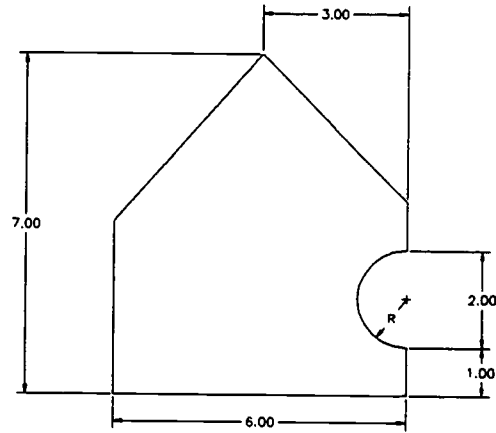

Figure 3
3. Use **Geo_Edit >> Modify** on two lines to create “house” as shown in figure 3.